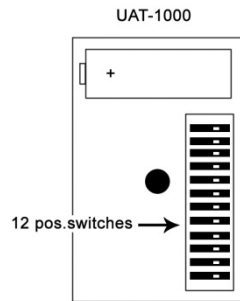

Fig.1
- Install the 12 volt battery as shown in (Fig.1 OBSERVE POLARITY!)
NOTE: Switches 1 and 9 are not used, and should be left in the "OFF" position. Switches 2 through 8 are not used, and should be left in the "ON" position. Fig. 1